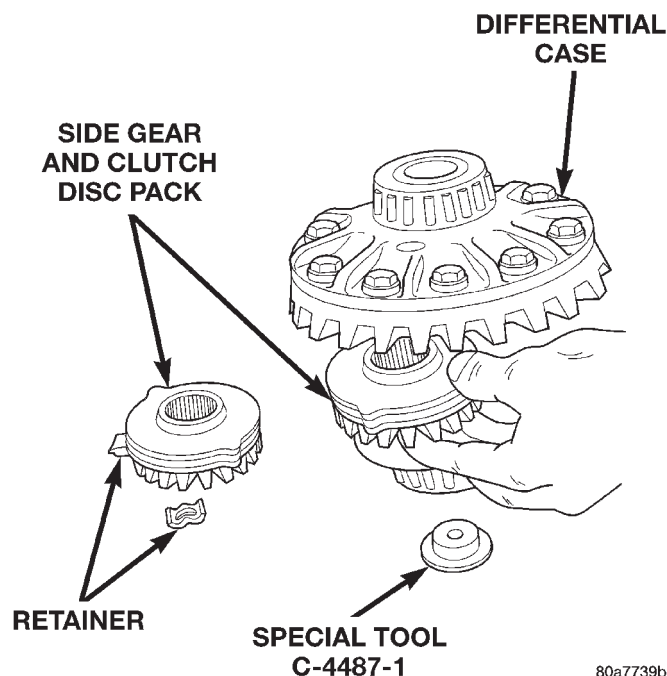

Fig. 62 Side Gear & Clutch Disc Removal
- (14) Remove pinion gears from differential case.
- (15) Remove Forcing Screw C-4487-2, Step Plate C-4487-1, and Threaded Adapter C-4487-3.
- (16) Remove top side gear, clutch pack retainer, and clutch pack. Keep plates in correct order during removal (Fig. 62).
- (17) Remove differential case from Side Gear Holding Tool 6963-A. Remove side gear, clutch pack retainer, and clutch pack. Keep plates in correct order during removal.